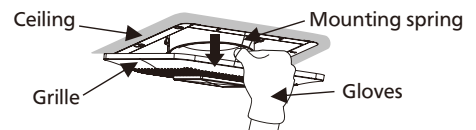

Fig.15
2.Remove one mounting spring. (Fig.15)